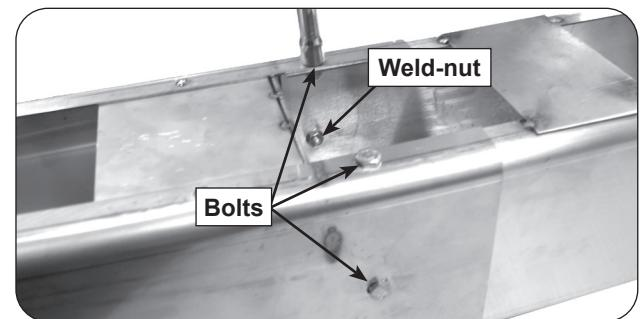

Fig. 17-2 Fasten extension to post
3. Reinstall the bolts from outside the joined post and extension, insert one of the $1/4" \times 20-5/8"$ bolts (supplied) into each of the five (5) bolt holes and tighten each using a $7/16"$ socket driver or wrench (see Fig. 17-2).